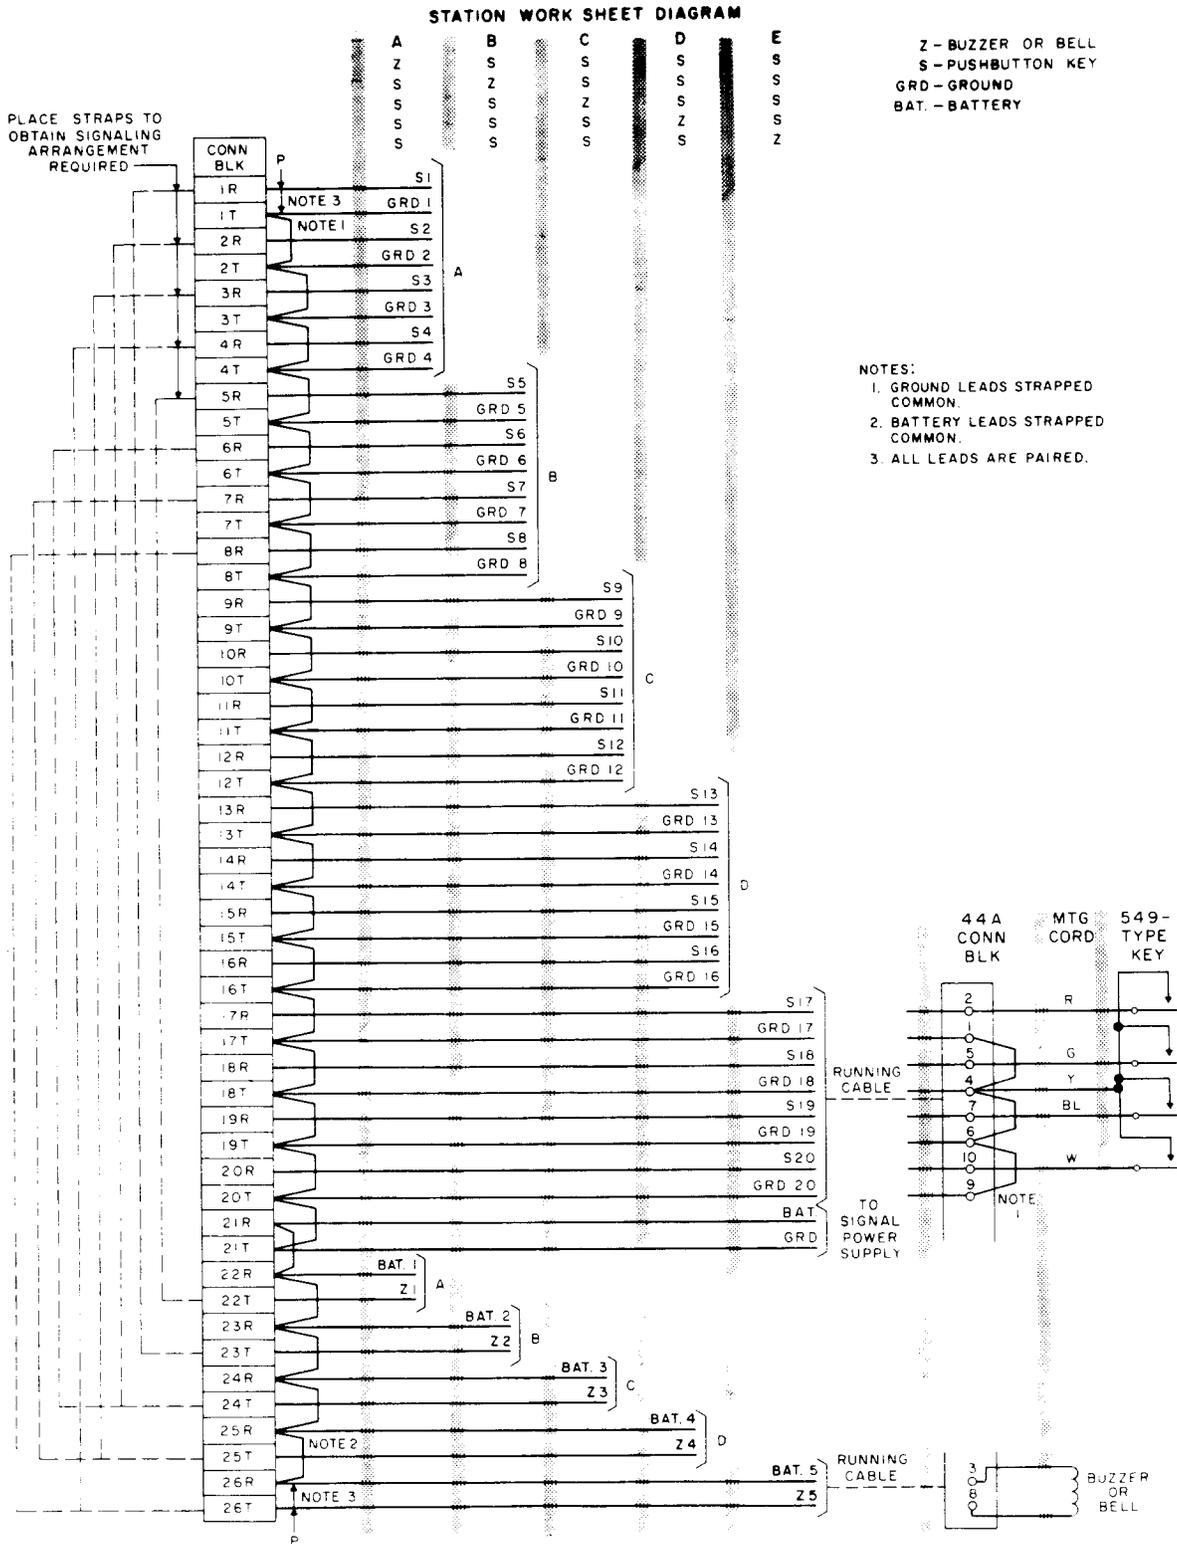

Fig. 21—Large Pushbutton and Buzzer System
**6.01** A simplified method of connecting buzzers, bells, and pushbutton keys is to be used on all systems. This method ensures the pairing of all key and buzzer leads throughout the system (Fig. 21 and 22).